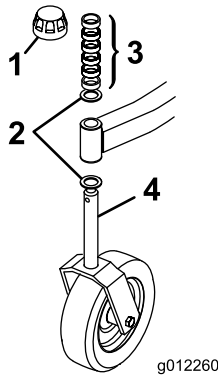
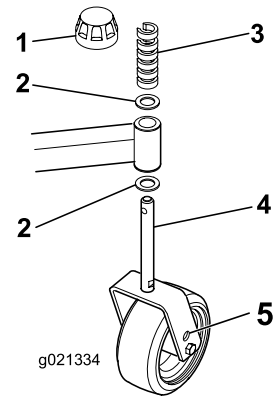

Figure 2
Figure 3
1. Remove the tensioning caps from the spindle shafts and slide off the spacers and thrust washers (Figure 2 & Figure 3).
2. Slide the spacers onto the castor spindle to get the desired height-of-cut; refer to the Height-of-Cut Chart in the Adjusting the Height of Cut section in this manual. Slide a thrust washer onto the spindle. Push the large castor spindle through the front castor arm and the small castor spindle through the rear castor arm. Install another thrust washer and the remaining spacers onto the spindle and install the tensioning cap to secure the assembly (Figure 2 & Figure 3).